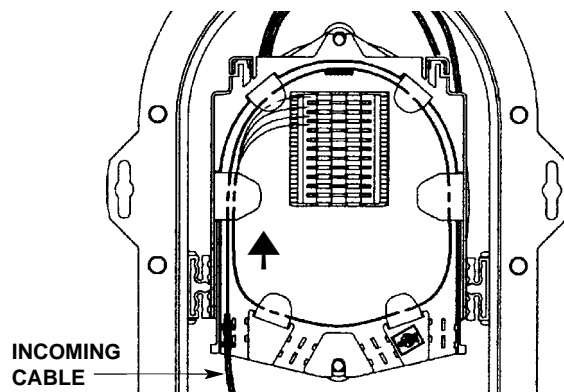

FIGURE 26 - ROUTING INCOMING CABLE FIBERS
- 11.01 Route the fibers from the "incoming" cable clockwise around the Splice Tray at least 1-1/2 times and into the splice block. (Figure 26)